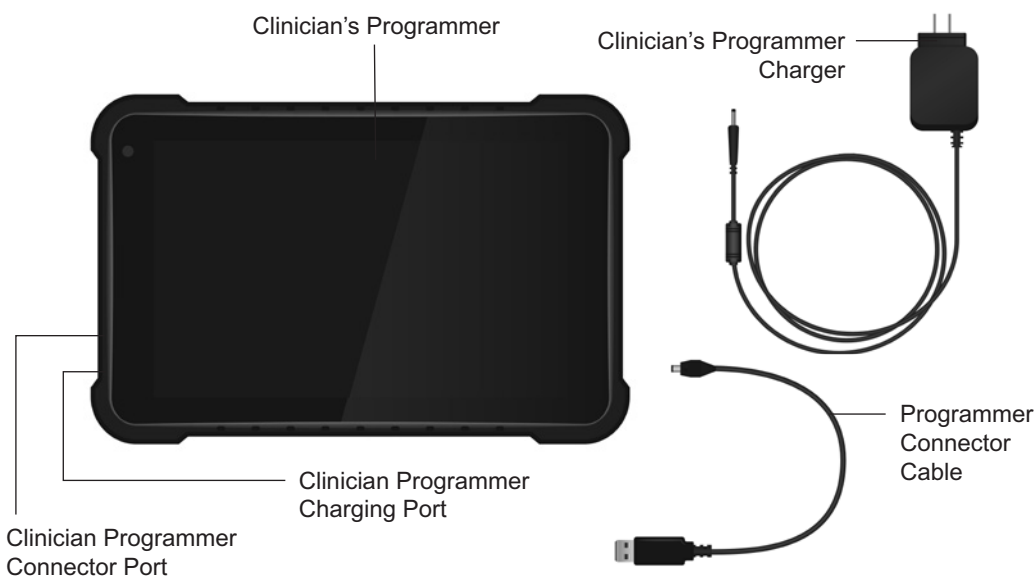

Figure 8-1: The Clinician's Programmer set-up
1. Insert the Clinician Programmer Charger into the Clinician Programmer charging port and plug the charger into a power socket. Plug the charger into a power socket. See Figure 8-1.